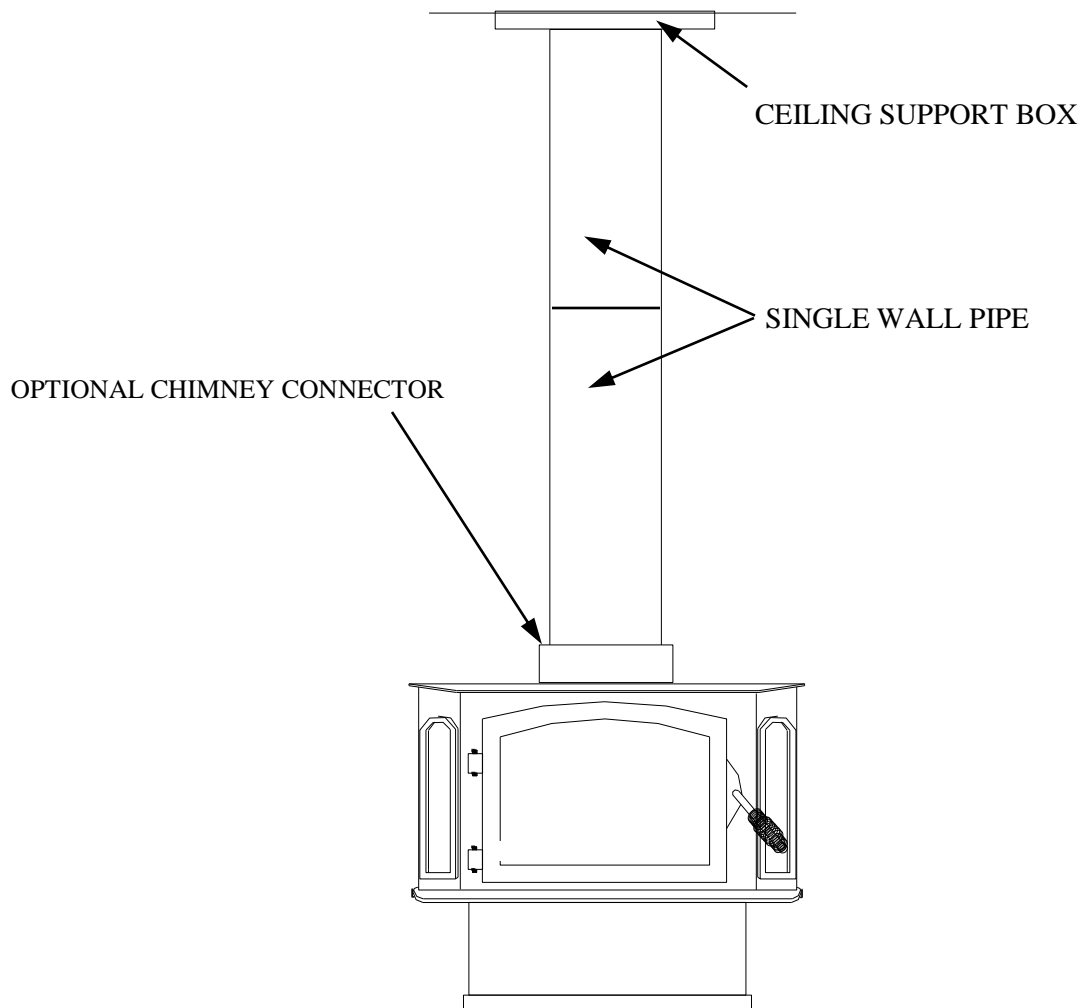

Figure 9
3. Next, install an optional New Buck Corporation chimney connector to flue exit of heater or you may use "Ell" brackets to fasten pipe to stove. See (Page 23, Figure 9).